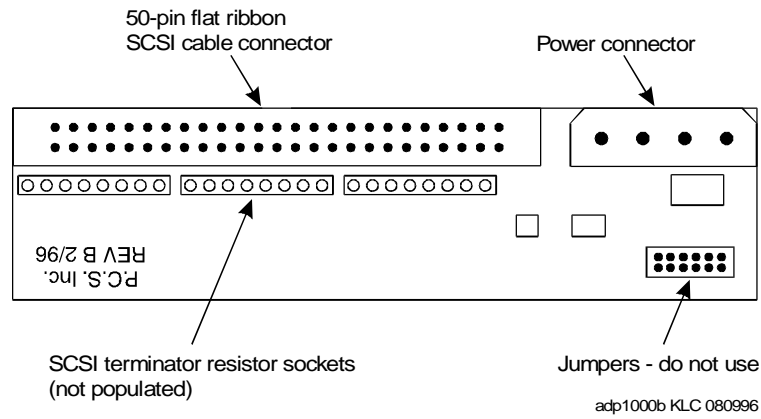
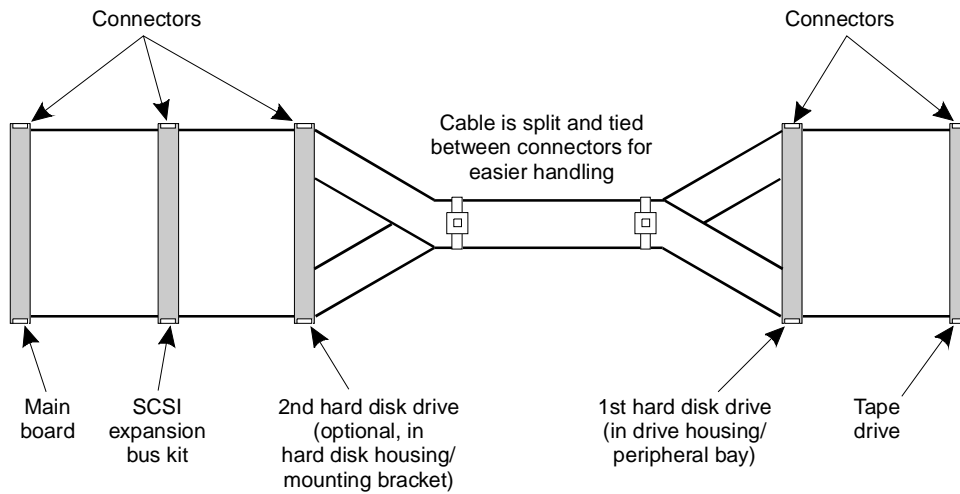

Figure C-23. Faceplate of the MAP/5 Adapter Card
Figure C-24. SCSI Cable Connector Locations
1. Connect the SCSI ribbon to the 50-pin flat ribbon SCSI cable connector on the MAP/5 adapter card. This connector is located on the same side of the card as the jumpers. Figure C-23 shows the face of the adapter card. Figure C-24 shows the SCSI cable connector assignments.
2. Connect the power cable to the power connector (Figure C-23).
In addition to storage capacity the drives differ primarily in the way you load the tape. The 525 Mbyte version uses a single-step process: pushing in the tape causes the door to lock automatically. With the 2 Gbyte version, (Figure C-23), you must first insert the tape and then close the door manually. Installation procedures are the same for either type of drive, but jumper settings are different.